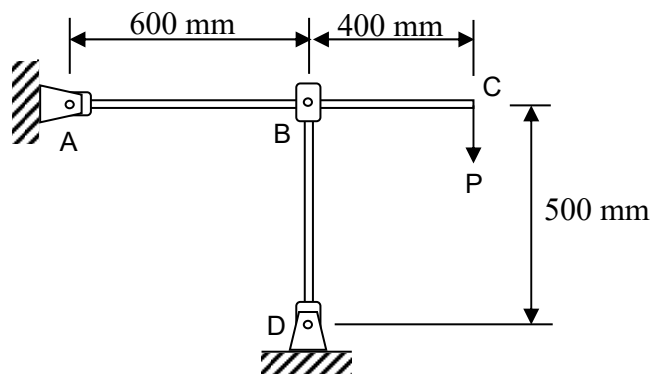

Figure 11/Rajah 11
- [b] Steel rod ABC is held by rod BD at B as shown in **Figure 11**. The diameter and modulus of elasticity of rods ABC and BD are 20 mm and  $200 \text{ GN/m}^2$ , respectively. Both ends of rod BD are pin connected.